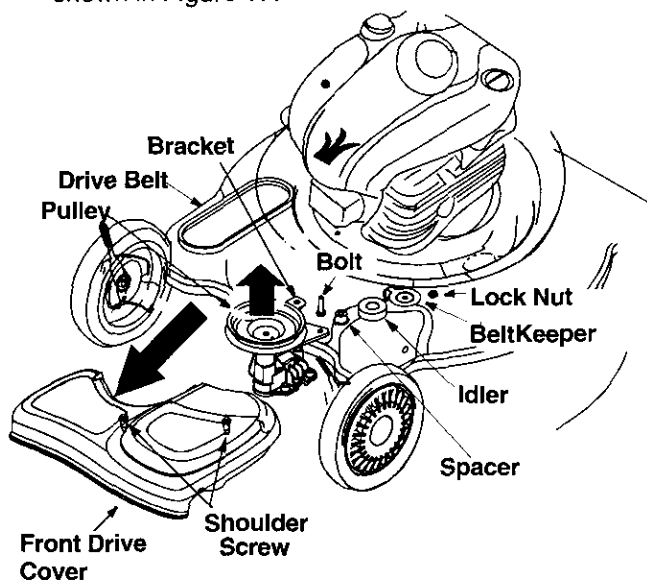

Figure 17
- Remove the two shoulder screws securing the front drive cover to the mower deck. See Figure 17.
- Remove the idler and hardware from idler bracket using 7/16" wrench and socket. See Figure 17.
- Remove the belt from the transmission pulley as shown in Figure 17.